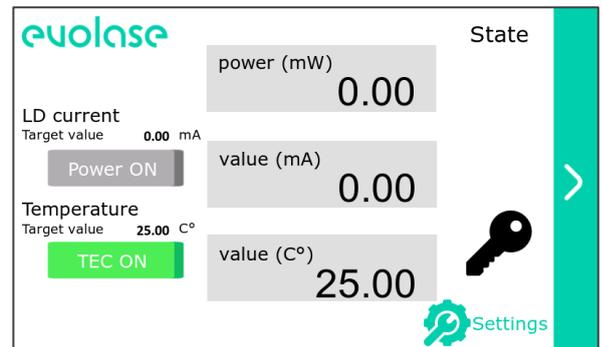

Figure 9 – Key
16. The laser emission wouldn't turn on if there is no Key in laser bench or the key is in the locked position. In this case, when the “Power ON” button is taped a key icon will appear in the state column on the right side of the screen (fig. 9). To turn on the laser emission, Turn the key to the unlock position and tap the “Power on” button.